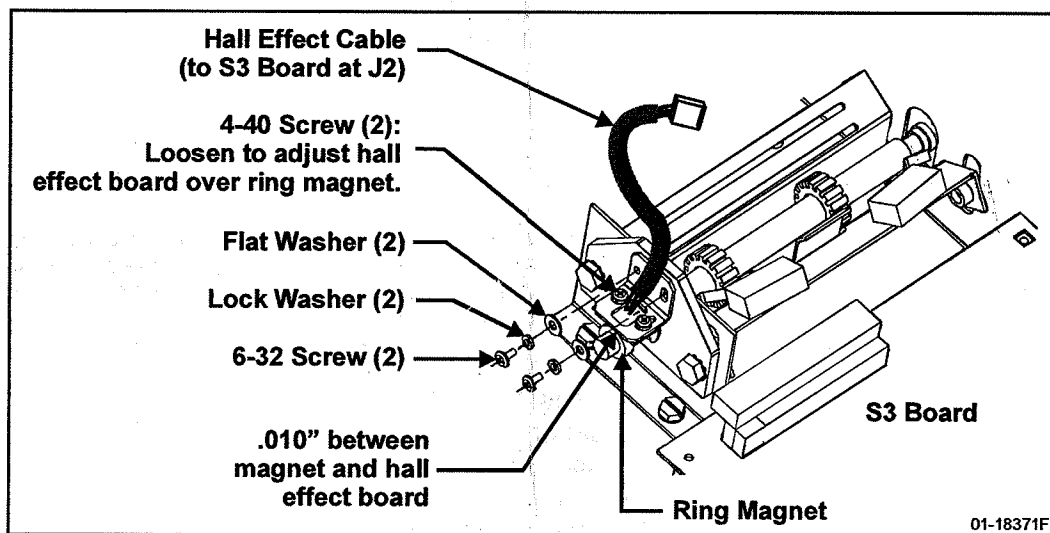

Figure 1: Hall Effect Assy. Installation for the SL540/570
- 5 **SL540/570 Operators:** Install the new hall effect sensor assembly according to Figure 1.